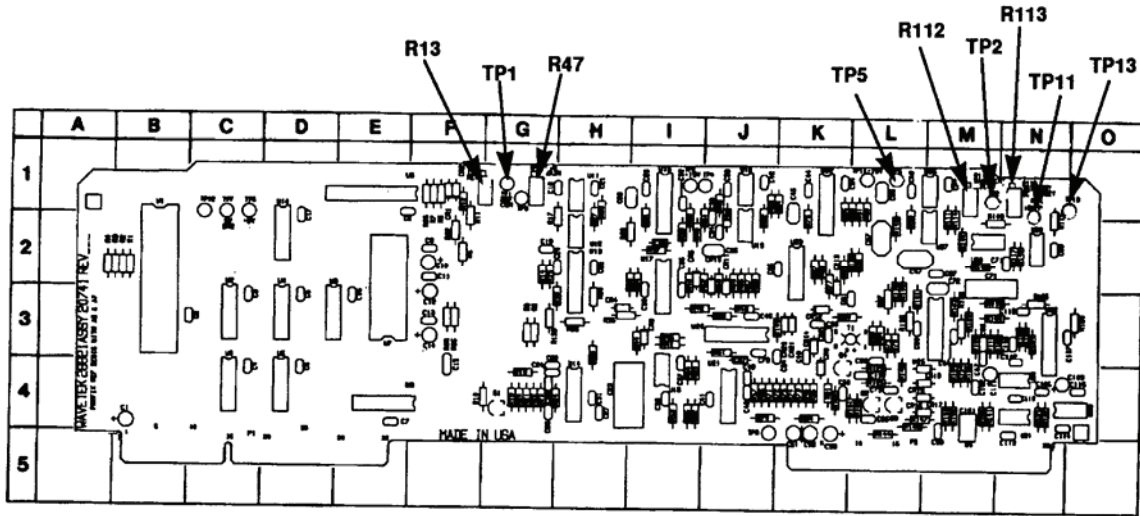

Figure 3. A6/A7 board - component locations.
- (1) Connect multimeter (dc mode) LO lead to A6TP1 (A7TP1) (fig. 3).
- (2) Connect multimeter (dc mode) HI lead to A6TP2 (A7TP2) (fig. 3).
- (3) Adjust A6R13 (A7R13) (fig. 3) for a multimeter indication between 9.997 and 10.003 V dc (R).
- (4) Repeat (1) through (3) above for A7 board.
- (5) Disconnect multimeter leads from TI.
- (8) Connect oscilloscope channel 1 input LO (common) lead to A6TP11 (A7TP11) (fig. 3) and then connect oscilloscope channel 1 input HI lead to A6TP5 (A7TP5) (fig. 3).
- (9) Connect pulse generator output to **TRIG INPUT** on TI rear panel.
- (10) Set pulse generator controls for a pulse signal with 5 V amplitude (TTL), 10 μ s pulse width, and a repetition rate of 1 kHz.
- (11) Press TI keys as listed in (a) through (c) below:
- (12) Adjust A6R112 (A7R112) (fig. 3) for an oscilloscope display indication between -0.002 and +0.002 V dc offset at the end of sample time (R).
- (13) Press TI keys as listed in (a) through (e) below:
- (14) Connect multimeter (dc mode) LO lead to A6TP1 (A7TP1) (fig. 3).
- (15) Connect multimeter (dc mode) HI lead to A6TP13 (A7TP13) (fig. 3).
- (16) Adjust A6R113 (A7R113) (fig. 3) for a multimeter indication between -0.001 and +0.001 V dc offset (R).
- (17) Disconnect TI from equipment setup.
- (18) Repeat (6) through (17) above for A7 board.
- (19) Press **RESET** pushbutton located on TI rear panel.
- (20) Press TI keys as listed in (a) through (d) below:
- (21) Connect multimeter (dc mode) to **ANALOG A** output on TI rear panel.
- (22) Adjust A6R47 (fig. 3) for a multimeter indication between -0.01 and +0.01 V dc (R).
- (23) Press **F3** key. Multimeter will indicate between 2.975 and 3.025 V dc.
- (24) Press **F1** key. Multimeter will indicate between -4.965 and -5.035 V dc.
- (25) Press **F2** key.
- (26) Move multimeter (dc mode) connection from **ANALOG A** output on TI rear panel to **ANALOG B** output on TI rear panel.
- (27) Adjust A7R47 (fig. 3) for a multimeter indication between -0.01 and +0.01 V dc (R).
- (28) Press **F3** key. Multimeter will indicate between 2.975 and 3.025 V dc.
- (29) Press **F1** key. Multimeter will indicate between -4.965 and -5.035 V dc.
- (30) Disconnect TI from equipment setup.